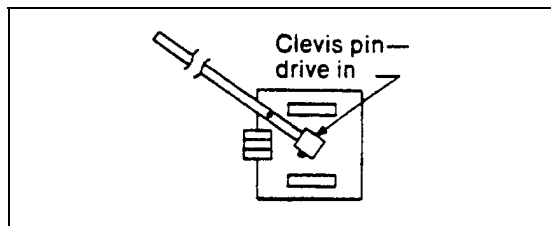

Figure 5 – Lever in Yoke
6. Turn lever 180° and insert through yoke. See Figure 5.
7. Drive clevis pin in until near end is flush and other end protrudes 1/8" (0.9 mm). See Figure 5.